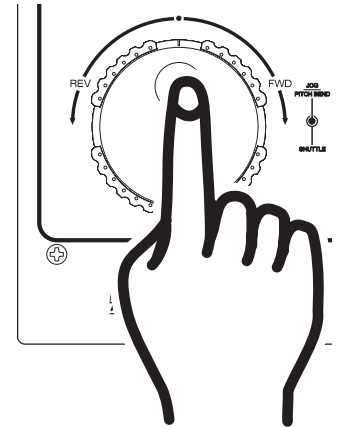

Figure 9
This feature allows you to scroll through a track to set a cue, starting sample, or loop point. To use the scroll function you must first be in Pause Mode or Cue Mode. Once you are in Pause or Cue mode, use your finger tip to turn the **JOG WHEEL (19)** to scroll through the track (figure 9). Turning the wheel in a clockwise direction will advance the frame search and turning the wheel in a counter-clockwise direction rewinds the frame search. When you use the **JOG WHEEL (19)** the monitor (headphone level) function allows you to hear what you are scrolling through. Once you reach your desired starting point you can set a cue (starting) point by pressing the **PLAY/PAUSE BUTTON (29)** as in figure 9. Pressing the **CUE BUTTON (27)** will return the disc to the cue point just set.